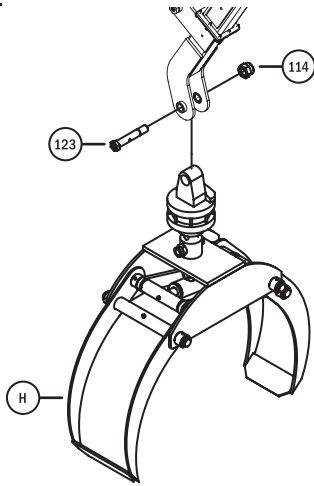

Fig. 14
Attach the Gripper Assembly (H, **Fig. 14**) by removing the Pivot Pin (123) from the end of the Boom Arm Assembly. Check that the direction of the hose connectors on the Gripper are orientated so the hoses on the Boom Arm can be connected, then align the holes between the Gripper joint and the Boom Arm. Insert the Pivot Pin (123) and install the Nut (114). Because the Gripper joint requires free movement, the Nut (114) need only be tightened until it bottoms out on the Pivot Pin (123). Each hose on the Boom Arm is marked with a label that corresponds to its connection point on the Gripper (Refer to the Hydraulic Schematic, if necessary). Match the label on each hose to its connection point and attach the hose. While tightening